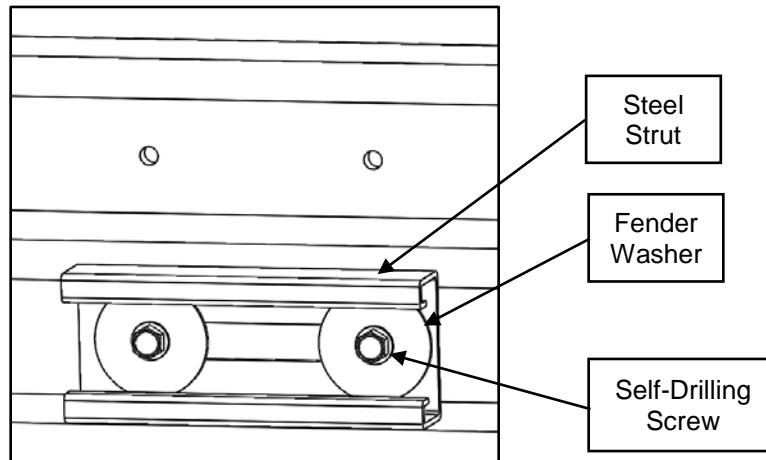

Figure 21. Washer and Screw Placement
2. Place two (2) 1/4" Fender Washers (Item #5) over two (2) #12-24 X 7/8" Self-Drilling Screws (Item #6). Work the fender washer/screw into either end of the strut. Use an impact driver with a 5/16" hex driver to drive the self-drilling screws into the mounting holes through the slot in the strut as shown in Figure 21.